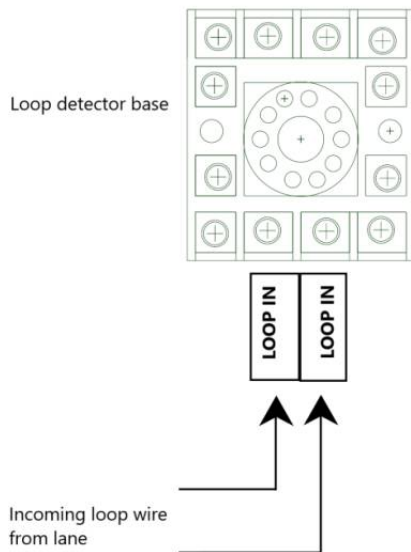

Figure 2.10: Loop coil markings.
2. Insert loop coil in accordance at the loop detector base socket markings (Figure 2.10).